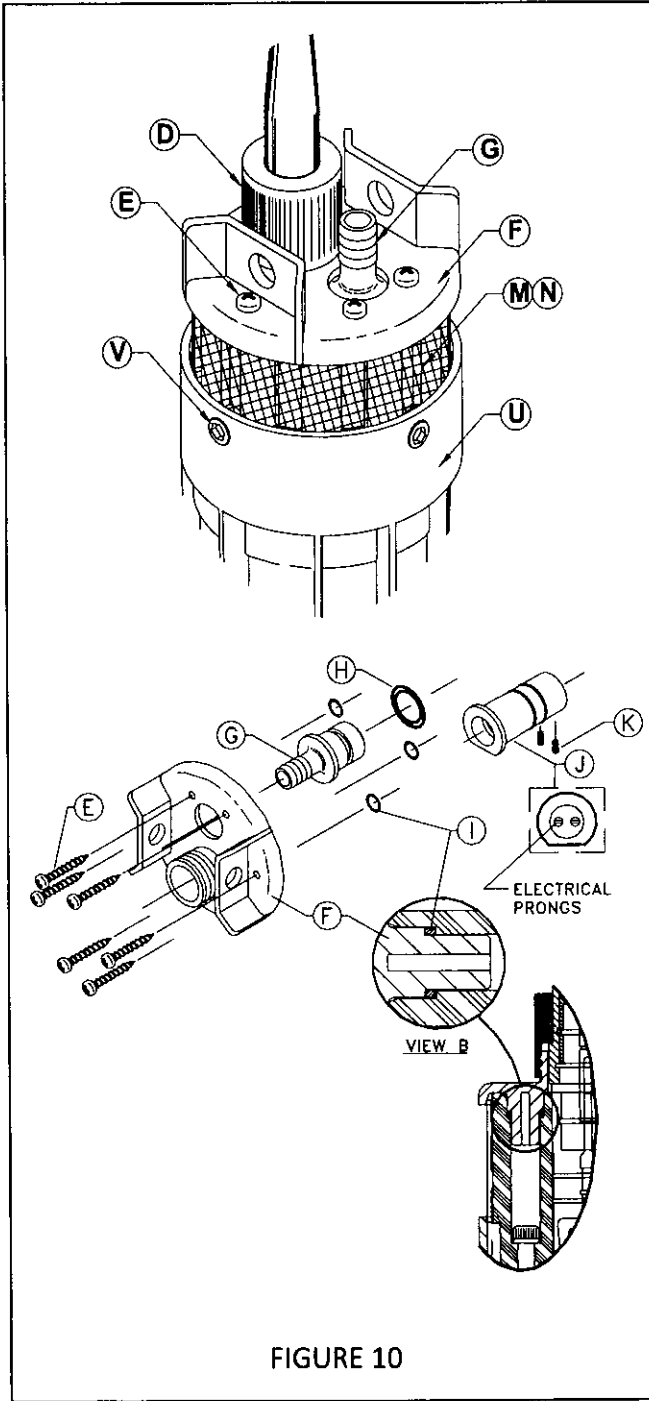

FIGURE 10
4. Unplug the Cable Adapter Assembly (Fig 10)
- 4.1 Remove the Nut (D) unscrewing it counterclockwise and pull the plug up.
5. Remove the Lift Plate (F) (Fig. 10)
6. Remove the Outlet Fitting (G) (Fig. 10)
- 6.1 Pull the Fitting (G) straight out from the Upper Housing (N).
7. Remove the Receptacle (Cable Adapter) (J) (Fig. 10)